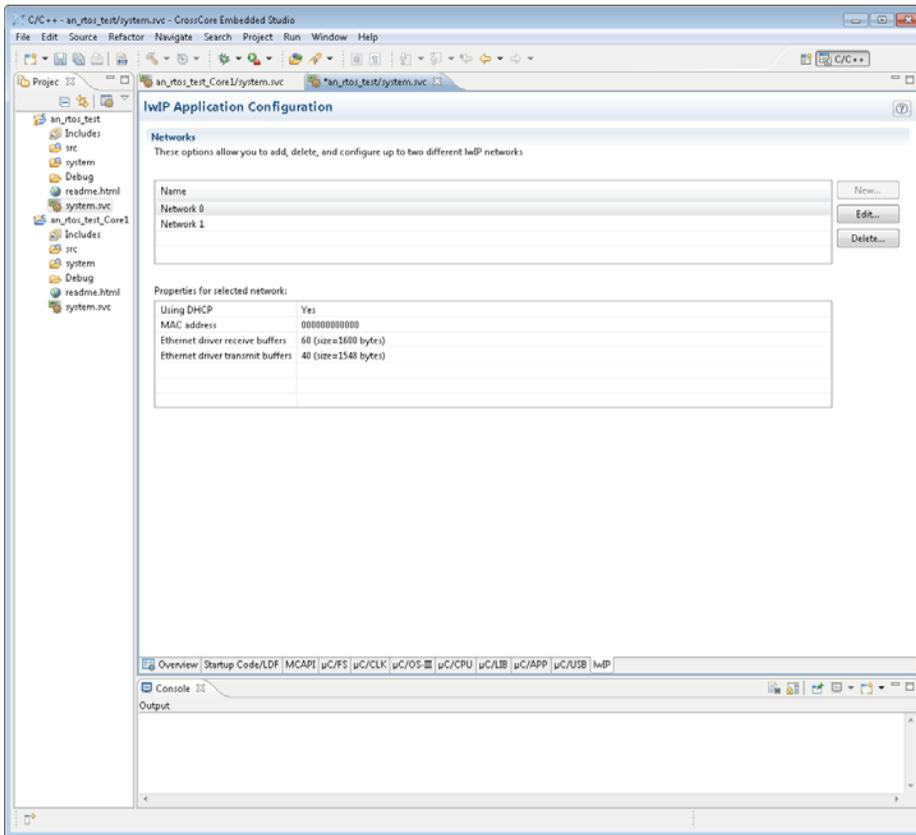

Figure 3-2. lwIP Application Configuration Page
Double-click the project's `system.svc` file and click the **lwIP** tab. The **lwIP Application Configuration** page appears (see Figure 3-2).
2. Click the **lwIP** tab to open the **lwIP Application Configuration** page (see Figure 3-2).
3. Double click the network ID (**Network 0** is shown in Figure 3-2) to open a dialog box for the selected network.